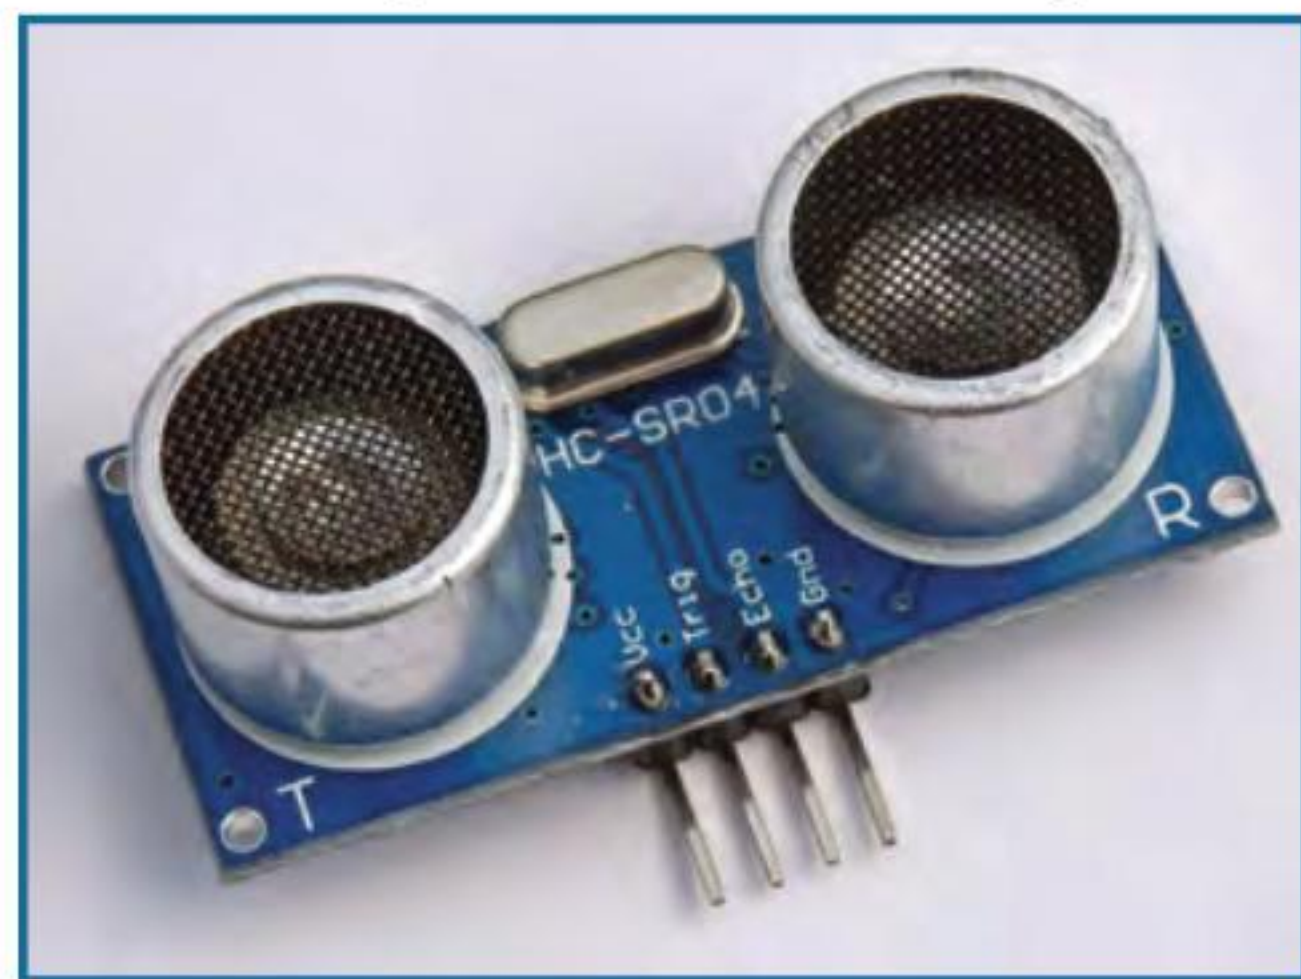

Fig.10.1. Front view of the popular HC-SR04 ultrasonic ranging module
In one of the most popular low-cost ultra-sonic ranging modules, the HC-SR04, an ultrasonic transmitter is paired with an ultrasonic receiver and packaged together with the necessary interfacing logic, allowing it to be connected to the I/O bus of a microcontroller (see Figs. 10.1 and 10.2).
- 2) Send a trigger pulse to the rangefinder module which will then generate an ultrasonic ping from the transmitting transducer (marked 'T' in Fig.10.1)
receiving transducer (marked 'R' in Fig.10.1)